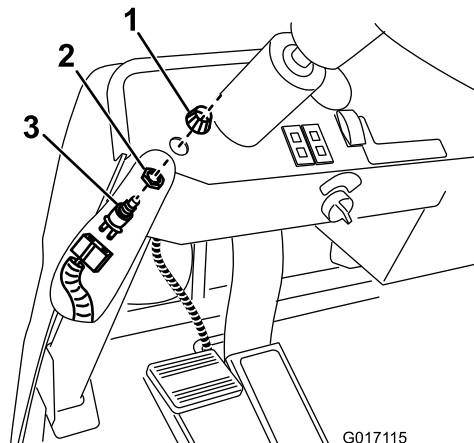

Figure 3
3. Thread the larger, flat hex nut onto the exposed threads of the switch body (Figure 3).
5. Connect the flat, two slot connector to the horn switch (Figure 3).
6. Move the switch assembly under the dash and push it through the hole (Figure 3).
7. Screw the horn face nut onto the switch threads to secure the assembly to the dash (Figure 3).